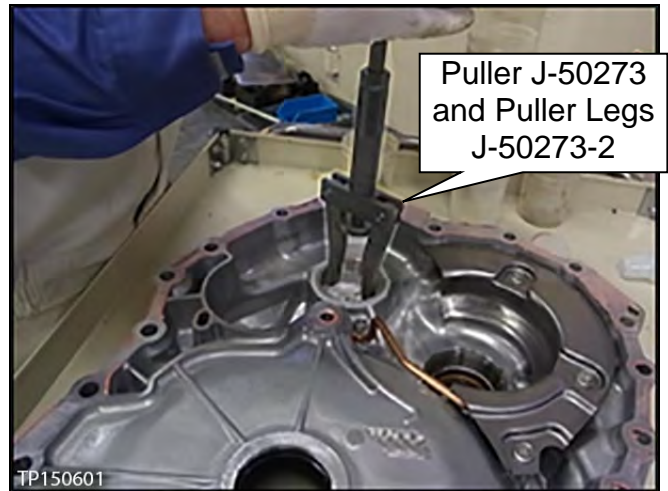

Figure 13
1. Remove the reduction gear outer race from the converter housing (see Figure 13).
- Use Slide Hammer J-25721-A with Slide Hammer Bolt J-50255-UPD to Puller J-50273 and Puller Legs J-50273-2 (see Figure 13 and 14).